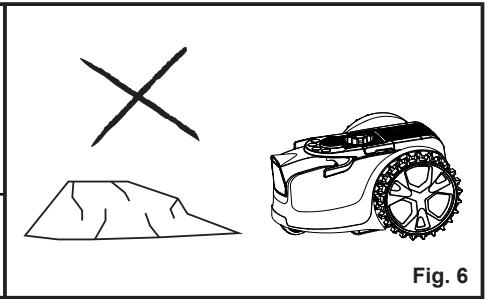

Fig. 6
3. If there are stones on the lawn that may damage the mower, they should be removed or excluded from the working area (Fig. 6).